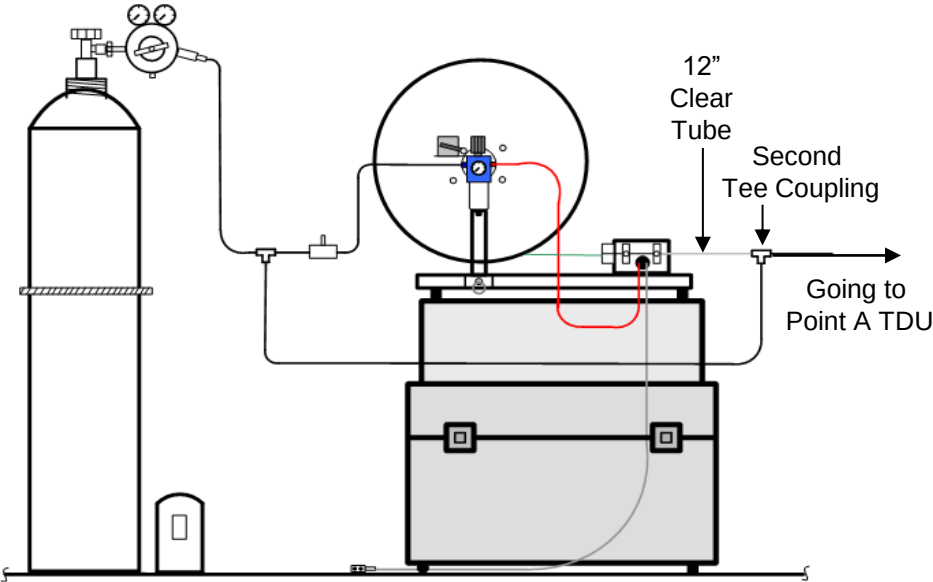
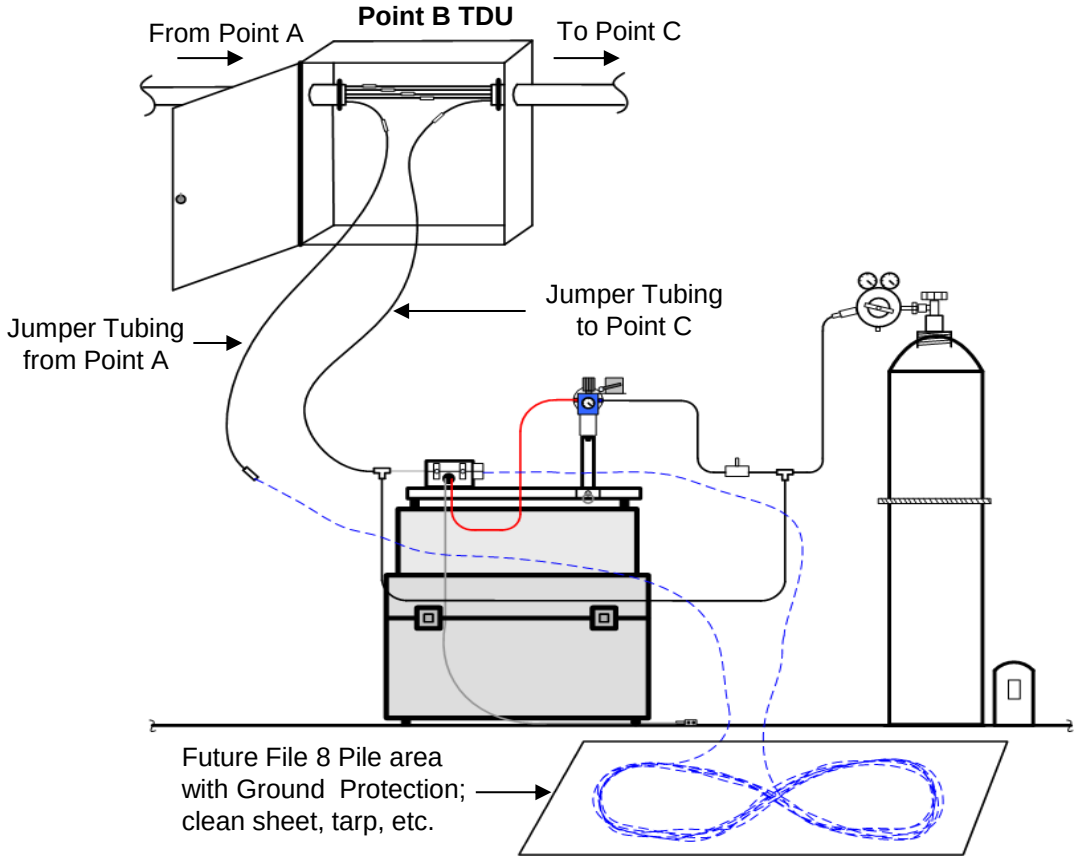
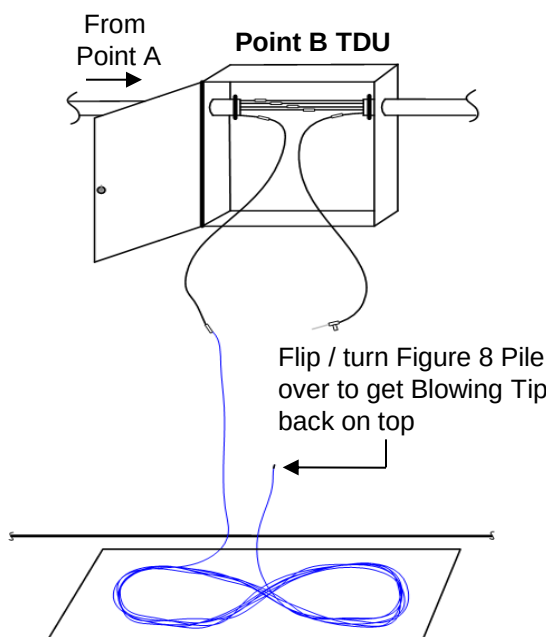

Figure 2
Figure 3
Figure 8
4.1.1 Special Note: The total number of Bottles required to accomplish Segment Blowing with a Figure 8 operation must be considered. Typically, two (2) bottles minimum (maybe more) will be needed at Point A and one (1) bottle (maybe two) at Point B location; total three (3) bottles minimum. Very long or tortuous tube span routes may require more.
4.10 Clean tarp, plastic sheet, or similar ground cover; to protect fiber bundle from contamination while in Figure 8 pile (Installer provided).
4.11 Traffic cones or similar; to organize fiber bundle in Figure 8 pile (Installer provided).
5.1 See Fig. 2 and Fig. 3 for a typical Segment Blowing with a Figure 8 Blowing Equipment layout.
6.4 At Point A, set up Blowing Head and fiber reel in accordance with Sumitomo Recommended Procedure SRP SP-F04-001. **Refer to Fig. 2.**
for Second Segment Blow off Figure 8
Prepare Point B TDU and Adjacent Area to Receive Fiber Bundle in Figure 8 Pile
6.6 Prepare Point B work area to receive fiber bundle and make Figure 8 pile.
6.6.2 Set up traffic cones to keep fiber bundle organized in Figure 8 pile.
8.0 Making Figure 8 Pile
First Segment Blow from Point A TDU to Point B TDU and into a Figure 8
8.2 Installer and Assistant guide moving fiber bundle to protected area and begin making Figure 8 pile.
CAUTION: Blowing Head Operator must be prepared to adjust fiber bundle installation speed as directed by personnel making Figure 8 pile.
8.3 When sufficient fiber bundle length is available in Figure 8 pile to cover the remaining distance from Point B to Point C, Installer informs Blowing Head Operator.
Note: Do not cut fiber bundle from reel at this time. In the event the length of fiber bundle in the Figure 8 pile is "short," recovery is still possible.
9.1 At Point B, set up Blowing Head in accordance with Sumitomo Recommended Procedure SRP SP-F04-001 with the following exceptions. **See Fig. 8.**
Note: For this procedure, the Figure 8 pile must be turned over (flipped) to expose front end of fiber bundle and Fiber Bundle Blowing Tip.
CAUTION: Exercise extreme care when turning (flipping) Figure 8 pile to avoid damaging fiber bundle or getting loops tangled.
9.2 **Critical Step.** Carefully turn (flip) Figure 8 pile over to gain access to Fiber Bundle Blowing Tip. **See Fig. 8.**
Flip / turn Figure 8 Pile Carefully
10.7 Assistant guides exposed fiber bundle from Figure 8 pile into back of Blowing Head during blowing operations.
CAUTION: Be very careful when taking fiber bundle off Figure 8 pile. The thin bundles can tangle very quickly. Be alert and prepared to stop blowing operations if problems occur.
Second Blowing Operation From Point B Figure 8 to Point C
11.2 Blowing Head Operator must continue to install fiber bundle until Figure 8 pile is depleted. Installer at Point C FTU must coil, organize, and protect fiber bundle from damage until the Figure 8 pile is depleted.
11.4 When Figure 8 pile is depleted, Blowing Head Operator adjusts Motor Rate Control Valve to slow fiber bundle movement while decreasing exposed length. Assistant continues to help guide fiber bundle and jumper tubing toward back of Blowing Head.
14.8 This completes the Segment Blowing with a Figure 8 Blowing Procedure.